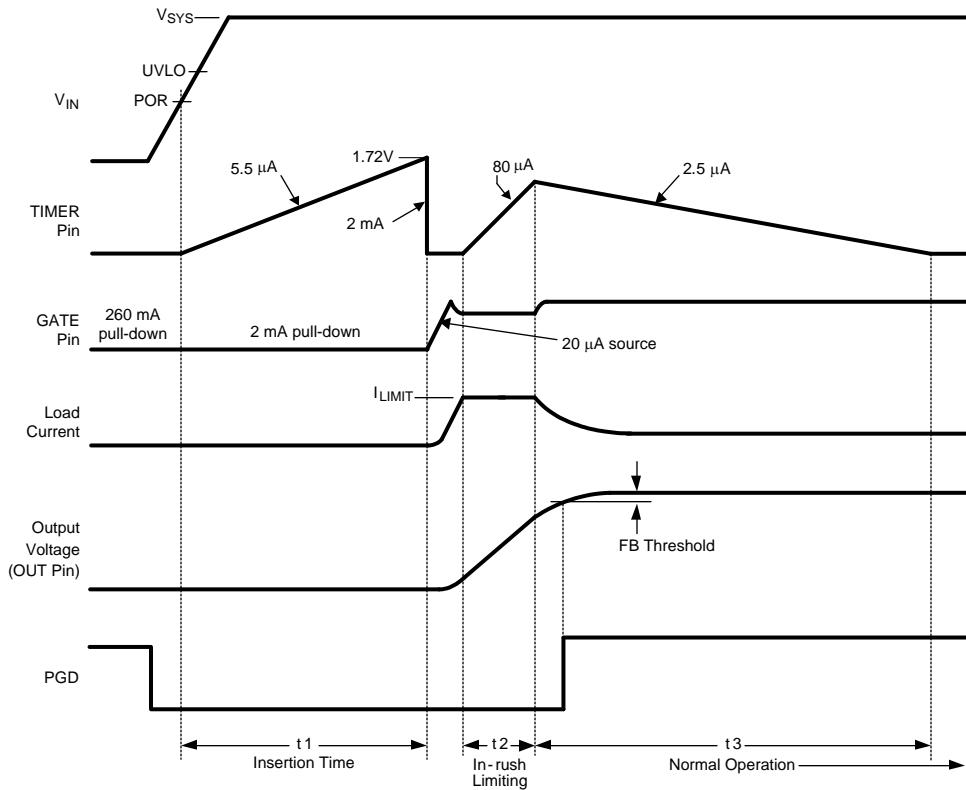

Figure 23. Power Up Sequence (Current Limit only)
The VIN operating range of the LM25061 is +2.9V to +17V, with a transient capability to 20V. Referring to the Block Diagram and Figure 21 and Figure 23, as the voltage at VIN initially increases, the external N-channel MOSFET (Q1) is held off by an internal 260 mA pull-down current at the GATE pin. The strong pull-down current at the GATE pin prevents an inadvertent turn-on as the MOSFET's gate-to-drain (Miller) capacitance is charged. Additionally, the TIMER pin is initially held at ground. When the VIN voltage reaches the POR threshold the insertion time begins. During the insertion time, the capacitor at the TIMER pin (C_T) is charged by a 5.5 μ A current source, and Q1 is held off by a 2 mA pull-down current at the GATE pin regardless of the VIN voltage. The insertion time delay allows ringing and transients at VIN to settle before Q1 is enabled. The insertion time ends when the TIMER pin voltage reaches 1.72V. C_T is then quickly discharged by an internal 2 mA pull-down current. The GATE pin then switches on Q1 when V_{SYS} exceeds the UVLO threshold. If V_{SYS} is above the UVLO threshold at the end of the insertion time, Q1 switches on at that time. The GATE pin charge pump sources 20 μ A to charge Q1's gate capacitance. The maximum voltage at the GATE pin is limited by an internal 19.5V zener diode.
As the voltage at the OUT pin increases, the LM25061 monitors the drain current and power dissipation of MOSFET Q1. In-rush current limiting and/or power limiting circuits actively control the current delivered to the load. During the in-rush limiting interval (t2 in Figure 23) an internal 80 μ A fault timer current source charges C_T . If Q1's power dissipation and the input current reduce below their respective limiting thresholds before the TIMER pin reaches 1.72V the 80 μ A current source is switched off, and C_T is discharged by the internal 2.5 μ A current sink (t3 in Figure 23). The in-rush limiting interval is complete when the load current reduces to the normal operating level. The PGD pin switches high when the output voltage exceeds the threshold programmed at the FB pin.
A charge pump provides the voltage at the GATE pin to enhance the N-Channel MOSFET's gate. During normal operating conditions (t3 in Figure 23) the gate of Q1 is held charged by an internal 20 μ A current source. The voltage at the GATE pin (with respect to ground) is limited by an internal 19.5V zener diode. See the graph “GATE Pin Voltage”. Since the gate-to-source voltage applied to Q1 could be as high as 19.5V during various conditions, a zener diode with the appropriate voltage rating must be added between the GATE and OUT pins if the maximum V_{GS} rating of the selected MOSFET is less than 19.5V. The external zener diode must have a forward current rating of at least 260 mA.
During the insertion time (t1 in Figure 23) the GATE pin is held low by a 2 mA pull-down current. This maintains Q1 in the off-state until the end of t1, regardless of the voltage at VIN or UVLO.
Following the insertion time, during t2 in Figure 23, the gate voltage of Q1 is modulated to keep the current or power dissipation level from exceeding the programmed levels. While in the current or power limiting mode the TIMER pin capacitor is charging. If the current and power limiting cease before the TIMER pin reaches 1.72V the TIMER pin capacitor then discharges, and the circuit enters normal operation.
A) Insertion Delay - Upon applying the system voltage (V_{SYS}) to the circuit, the external MOSFET (Q1) is held off during the insertion time (t_1 in Figure 23) to allow ringing and transients at V_{SYS} to settle. Since each backplane's response to a circuit card plug-in is unique, the worst case settling time must be determined for each application. The insertion time starts when V_{IN} reaches the POR threshold, at which time the internal 5.5 μA current source charges C_T from 0V to 1.72V. The required capacitor value is calculated from: